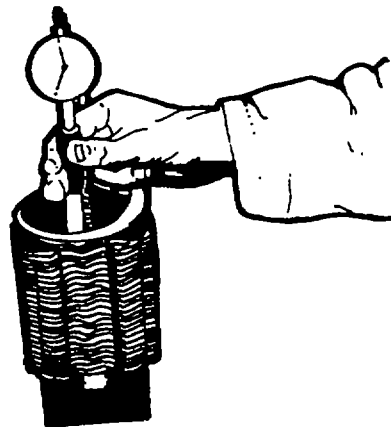

Figure 4-16. Setting the Bore Gauge
- k. Set bore gauge (figure 4-16) to the basic standard or oversize bore (see specification data in table 4-4).